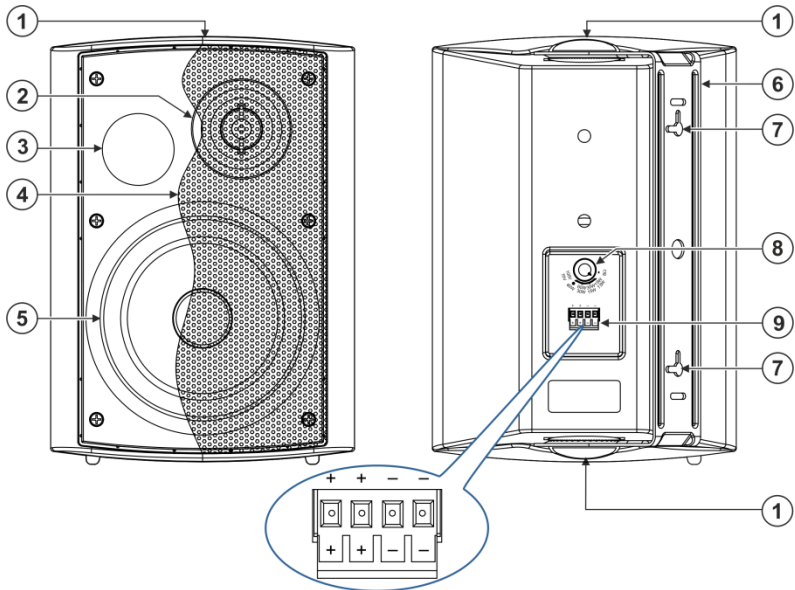

Figure 1: Yarden 6-O
5. Connect one of the + and – terminal block pairs on the rear panel (see Figure 1) by connecting the wire from the: